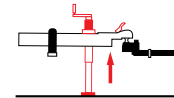

Figure 35
9. Raise the trailer coupler above the hitch ball. (Figure 35)